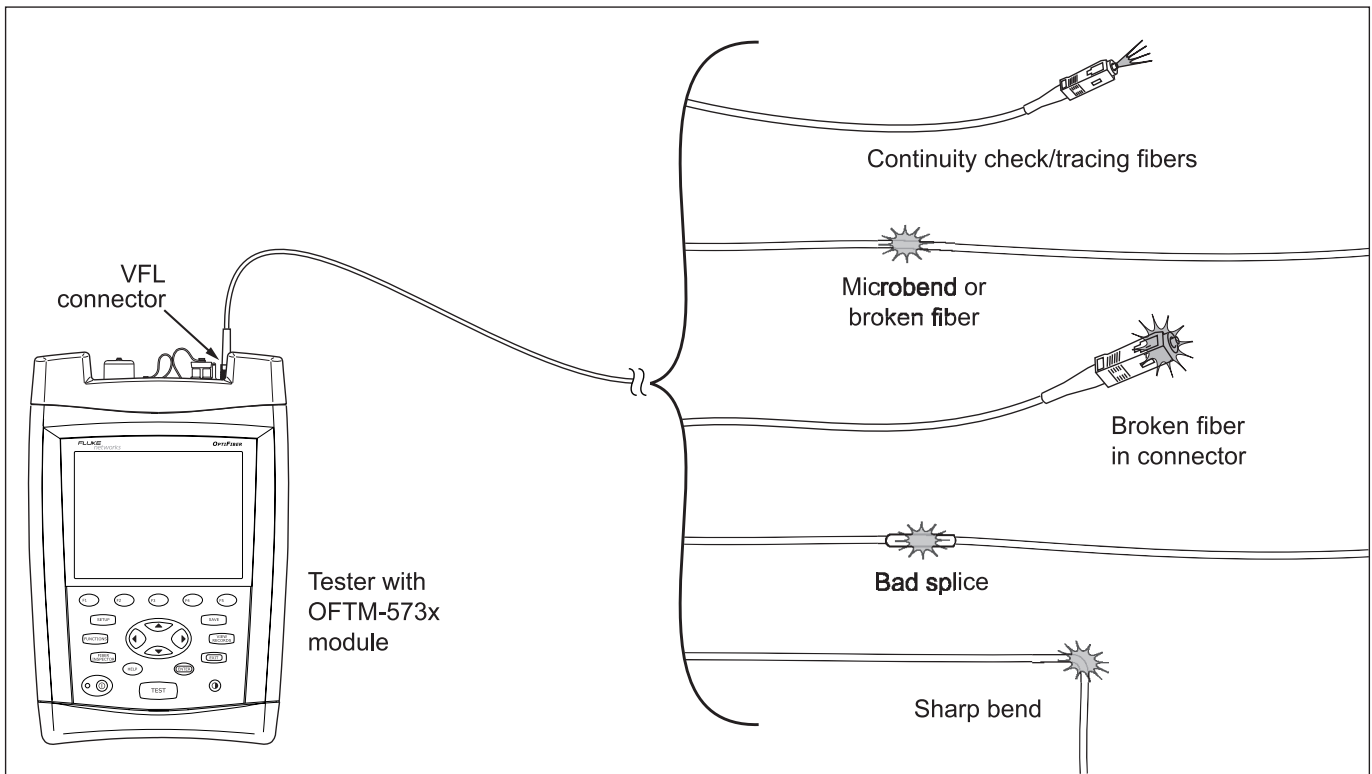

Figure 8-2. Using the Visual Fault Locator
- 6 Look for the glow to locate fibers or faults, as shown in Figure 8-2.